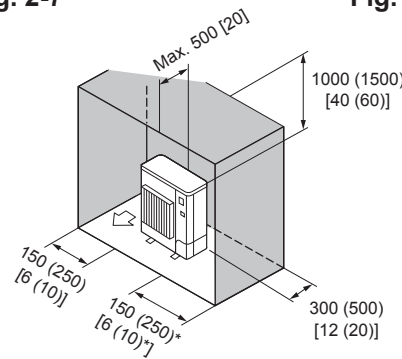

Fig. 2-11
- ⑦ Obstacles at rear, sides, and above only (Fig. 2-11)